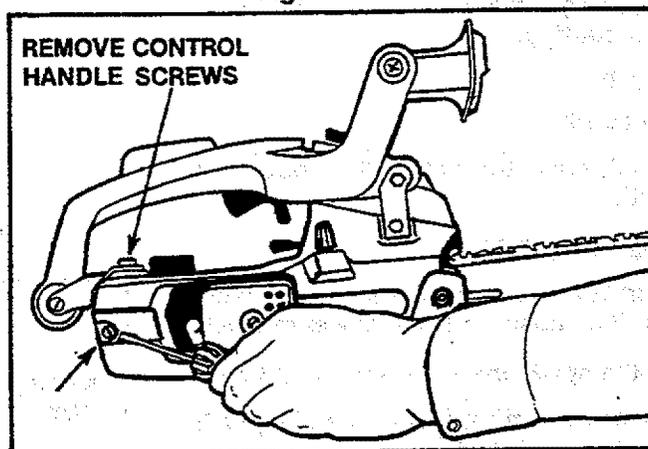

Figure 47
3. Remove the large screw at the rear of the control handle and the small screw directly below it. Figure 47.